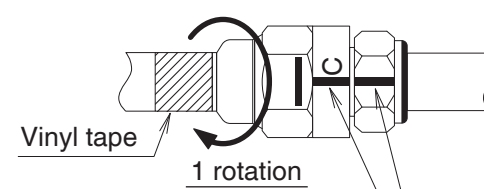

Fig. 11
- Secure the flareless joint and the connector portion using adjustable spanners, then, using the marking or the characters printed on the flareless joint as a guide, rotate the flareless joint 1 time to tighten it. (See Fig. 11 and 12)